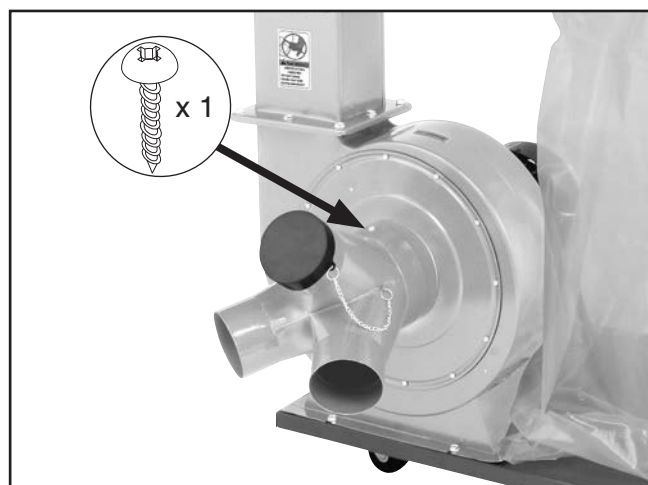

Figure 22. Inlet connector installed.
14. Insert the inlet connector over the impeller intake hole, then secure it in place with the #10 x 3/8" tap screw, as shown in **Figure 22**.